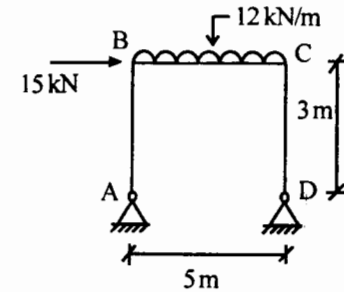

Figure-8
- (b) A portal frame shown in Figure-8 is loaded up to collapse. Determine the plastic moment of resistance required if the